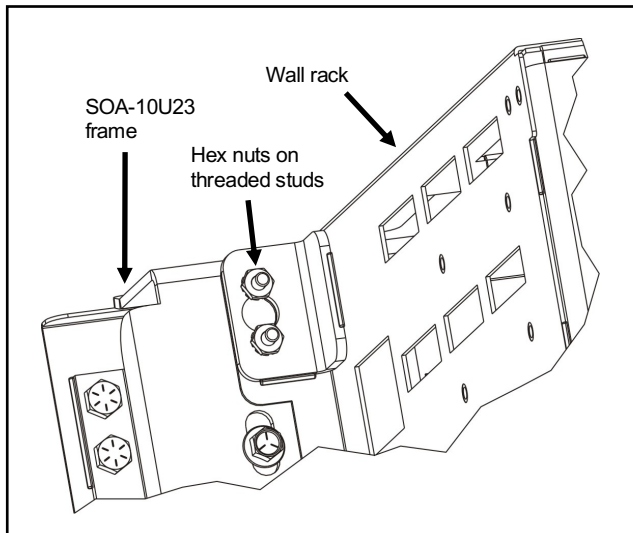

Figure 5. Wall rack attachment (one corner shown)
- ① Locate eight of the included #10-32 hex nuts.
- ② Align the mounting holes of the WR-10U23 or WR-15U23 with the four pairs of threaded studs on the face of the SOA-10U23 frame (one pair in each corner). Hex nuts will be installed on the studs, as shown in Figure 5.